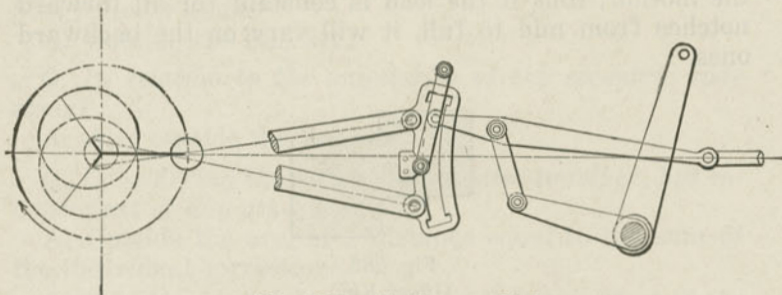

Fig. 287. Stationary Link.
*Q. To what class is the stationary-link motion, Fig. 287, best adapted?*